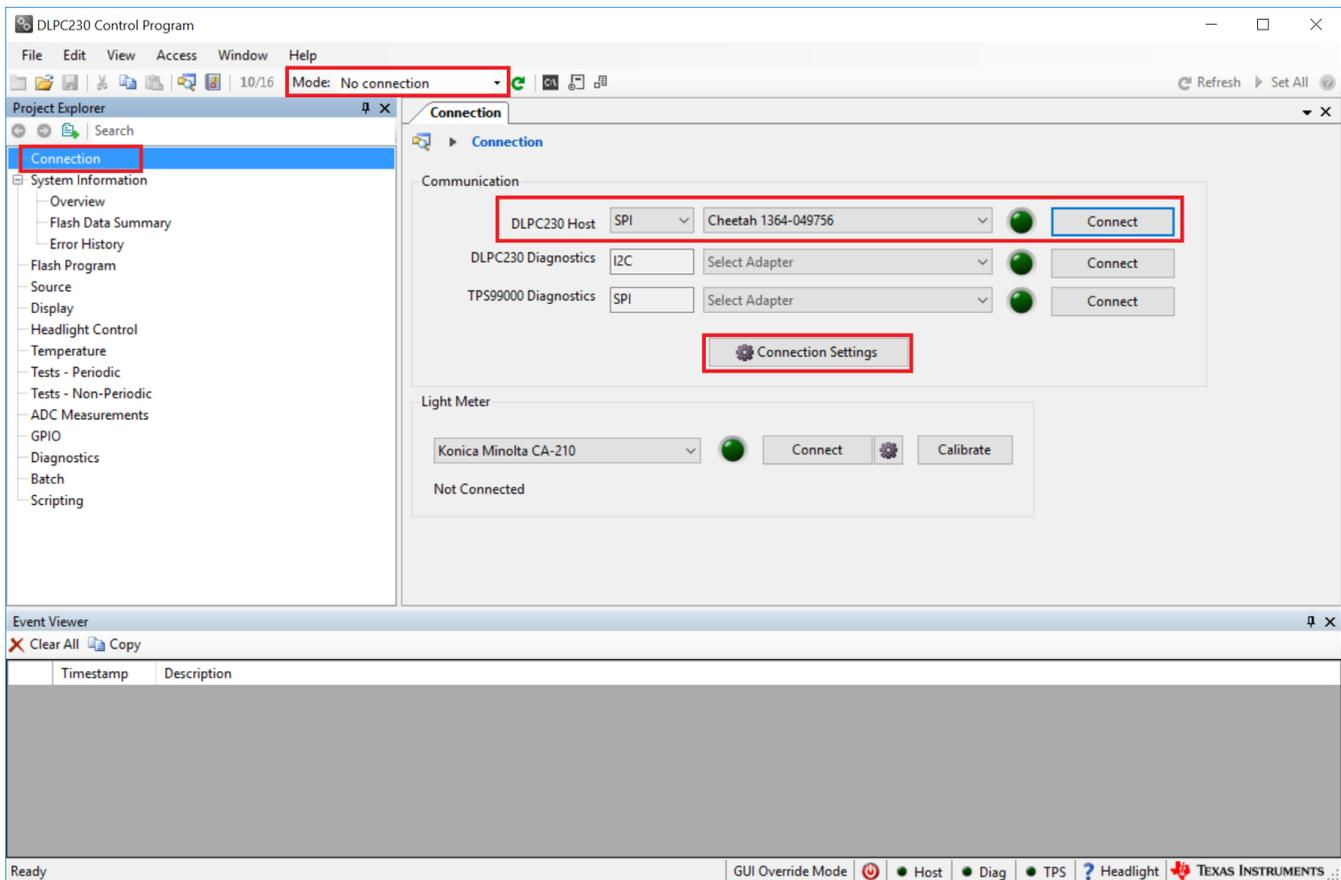

Figure 5. Connecting to the DLPC230-Q1 Using the DLPC230-Q1 Automotive Control Program
2. On the connection page set the DLPC230-Q1 Host to SPI and select the Cheetah from the drop down menu (see Figure 5). Note that the Cheetah must be connected to computer with USB cable for it to show up in the drop down box.